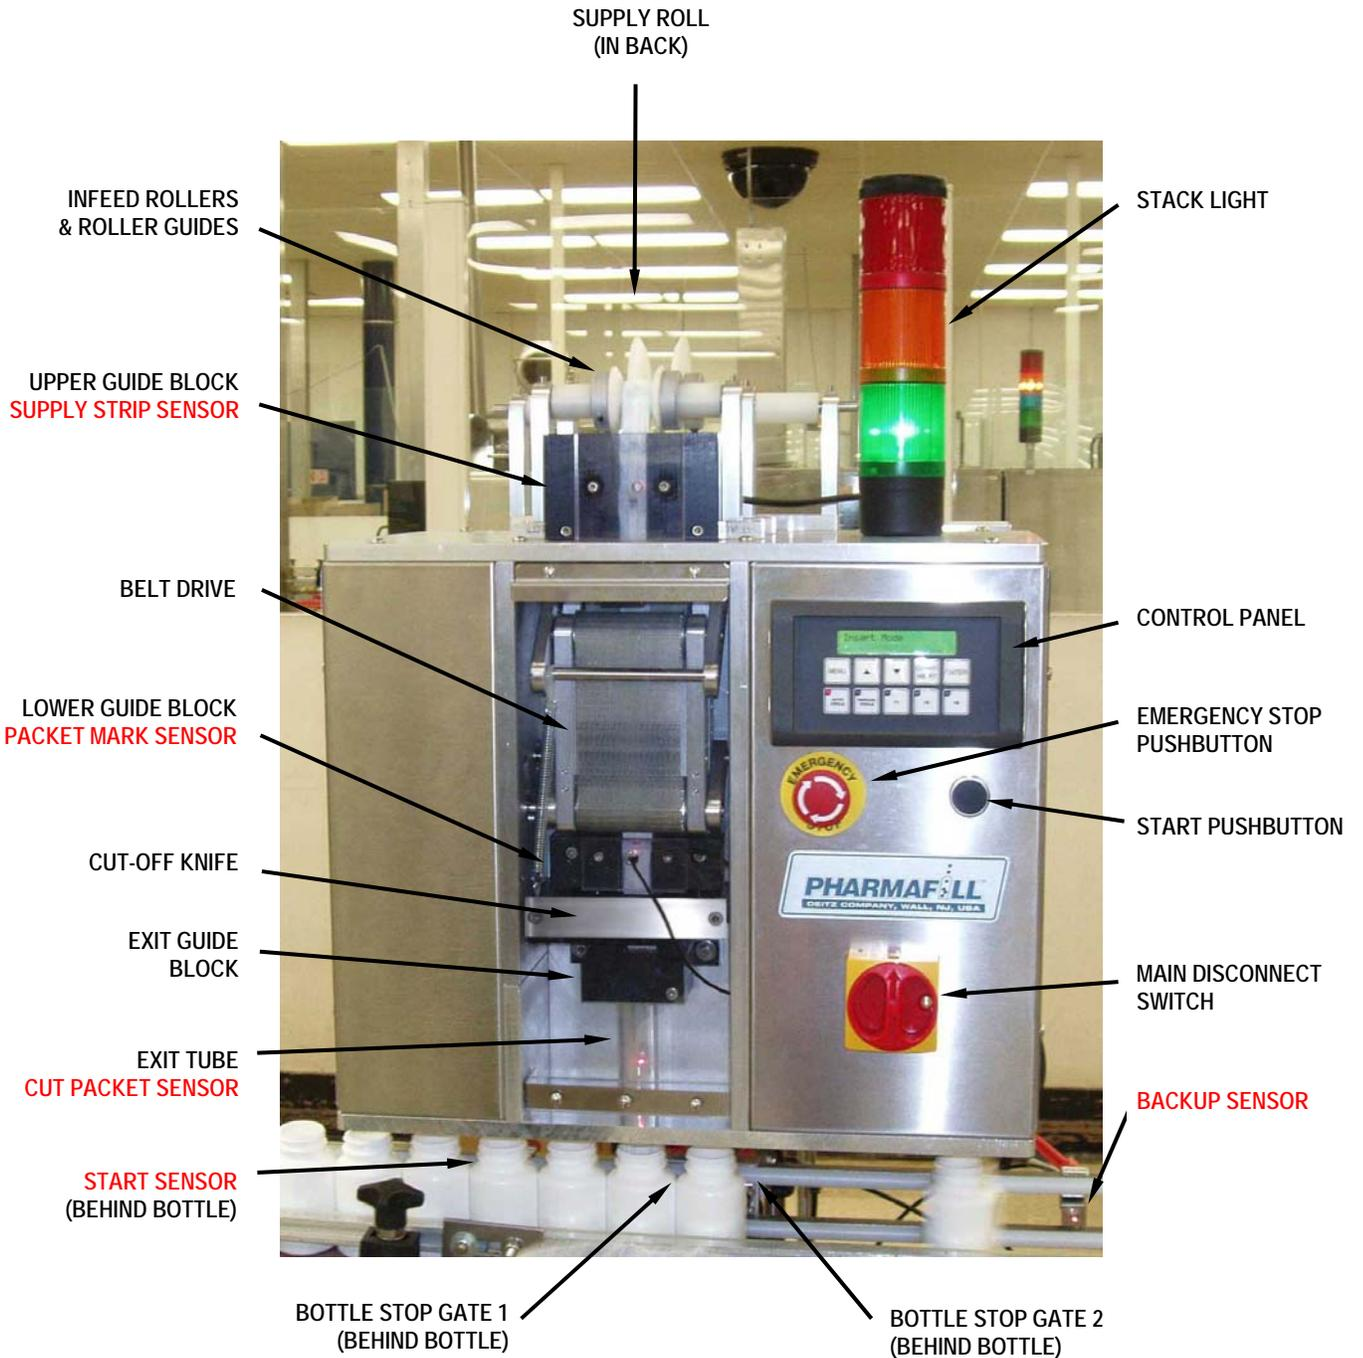

Figure 4.1
- B. Graphic Illustration (fig 4.1)